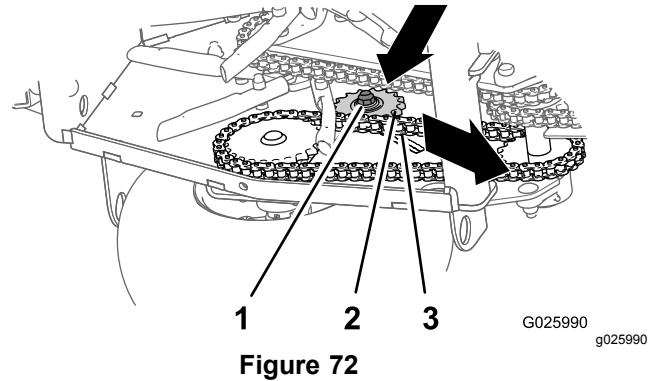

Figure 72
3. Check the tension of the drive-wheel chains (Figure 72).
4. Loosen the locknut and carriage bolt that secure the idler sprocket (Figure 72).
- Push down and forward on the sprocket to increase the chain tension as shown in Figure 72.